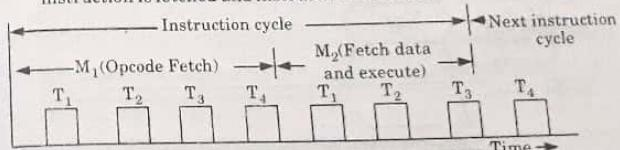

Fig. 2.7.1. A typical instruction cycle.
8. Fig. 2.7.1 exhibits instruction cycle and machine cycle within it. It shows two machine cycles M_1 and M_2 .